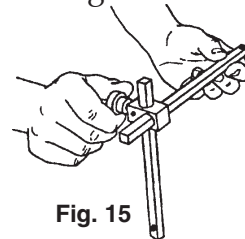

Fig. 15
3. Insert the vertical short arm (1) up through the clamp hole nearest the knob. The hole in the bar should be opposite the knob, and oriented as shown in Fig. 15.
4. Insert the cutter long arm (8) through the remaining clamp hole, with the hole end opposite the clamp end, and oriented as shown in Fig. 15. Finger tighten.